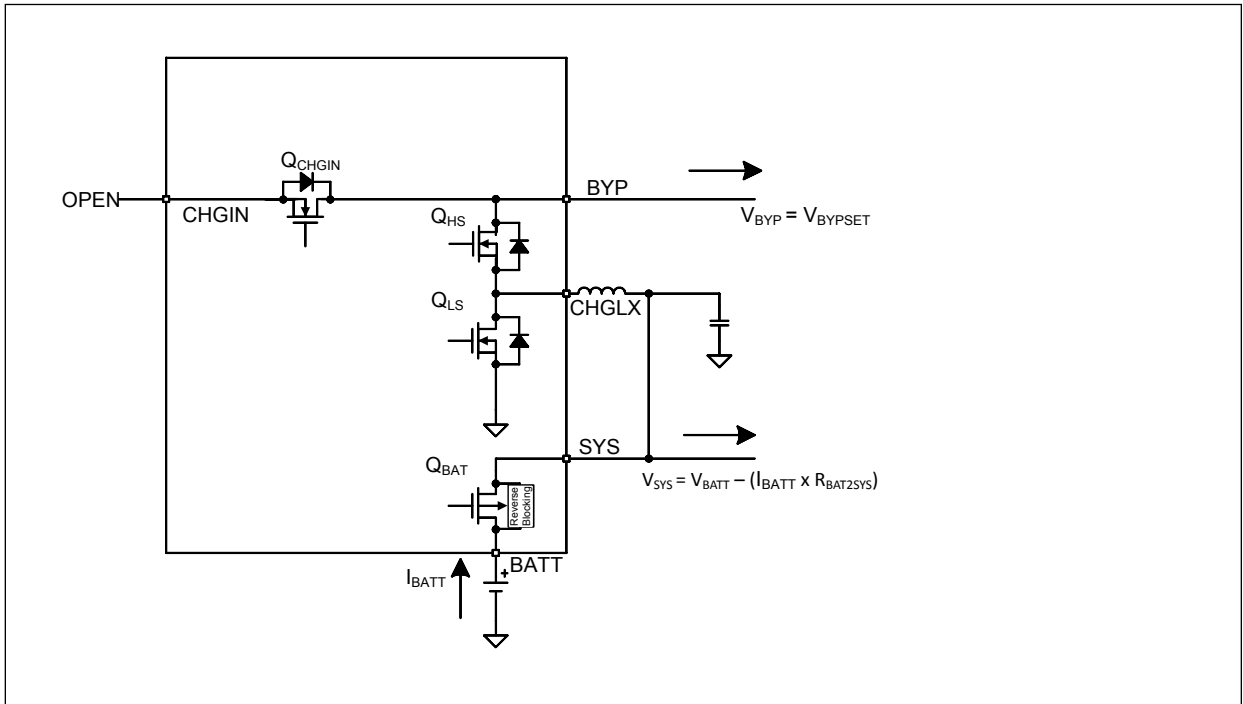

Figure 6. Battery-Boost
3. BATTERY-BOOST, MODE = 0x08: Adapter input is invalid outside the input voltage operating range (Q_{CHGIN} = off). Battery is connected to power the SYS load (Q_{BAT} = on) and charger is operating in boost mode (boost = on), see Figure 6.